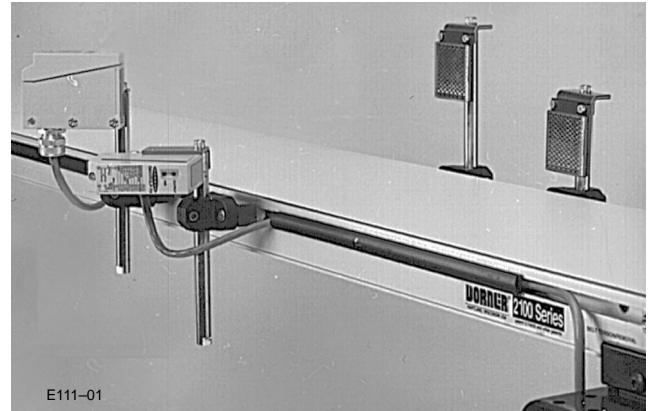

Figure 1: Photo-Eye Kit (75-33) Installed
To facilitate Cable routing, mount Photo-Eye on same side of conveyor that *impac* Conveyor Controller is mounted. Mounting positions will vary, depending on the application. The Photo-Eye Kit is designed to mount onto the T-slot channel along side of conveyor. For shipping, the Photo-Eye subassembly (E) is assembled in a horizontal position. If a vertical position is required, re-mount Bracket (677437M) vertically, as shown in Figure 1.